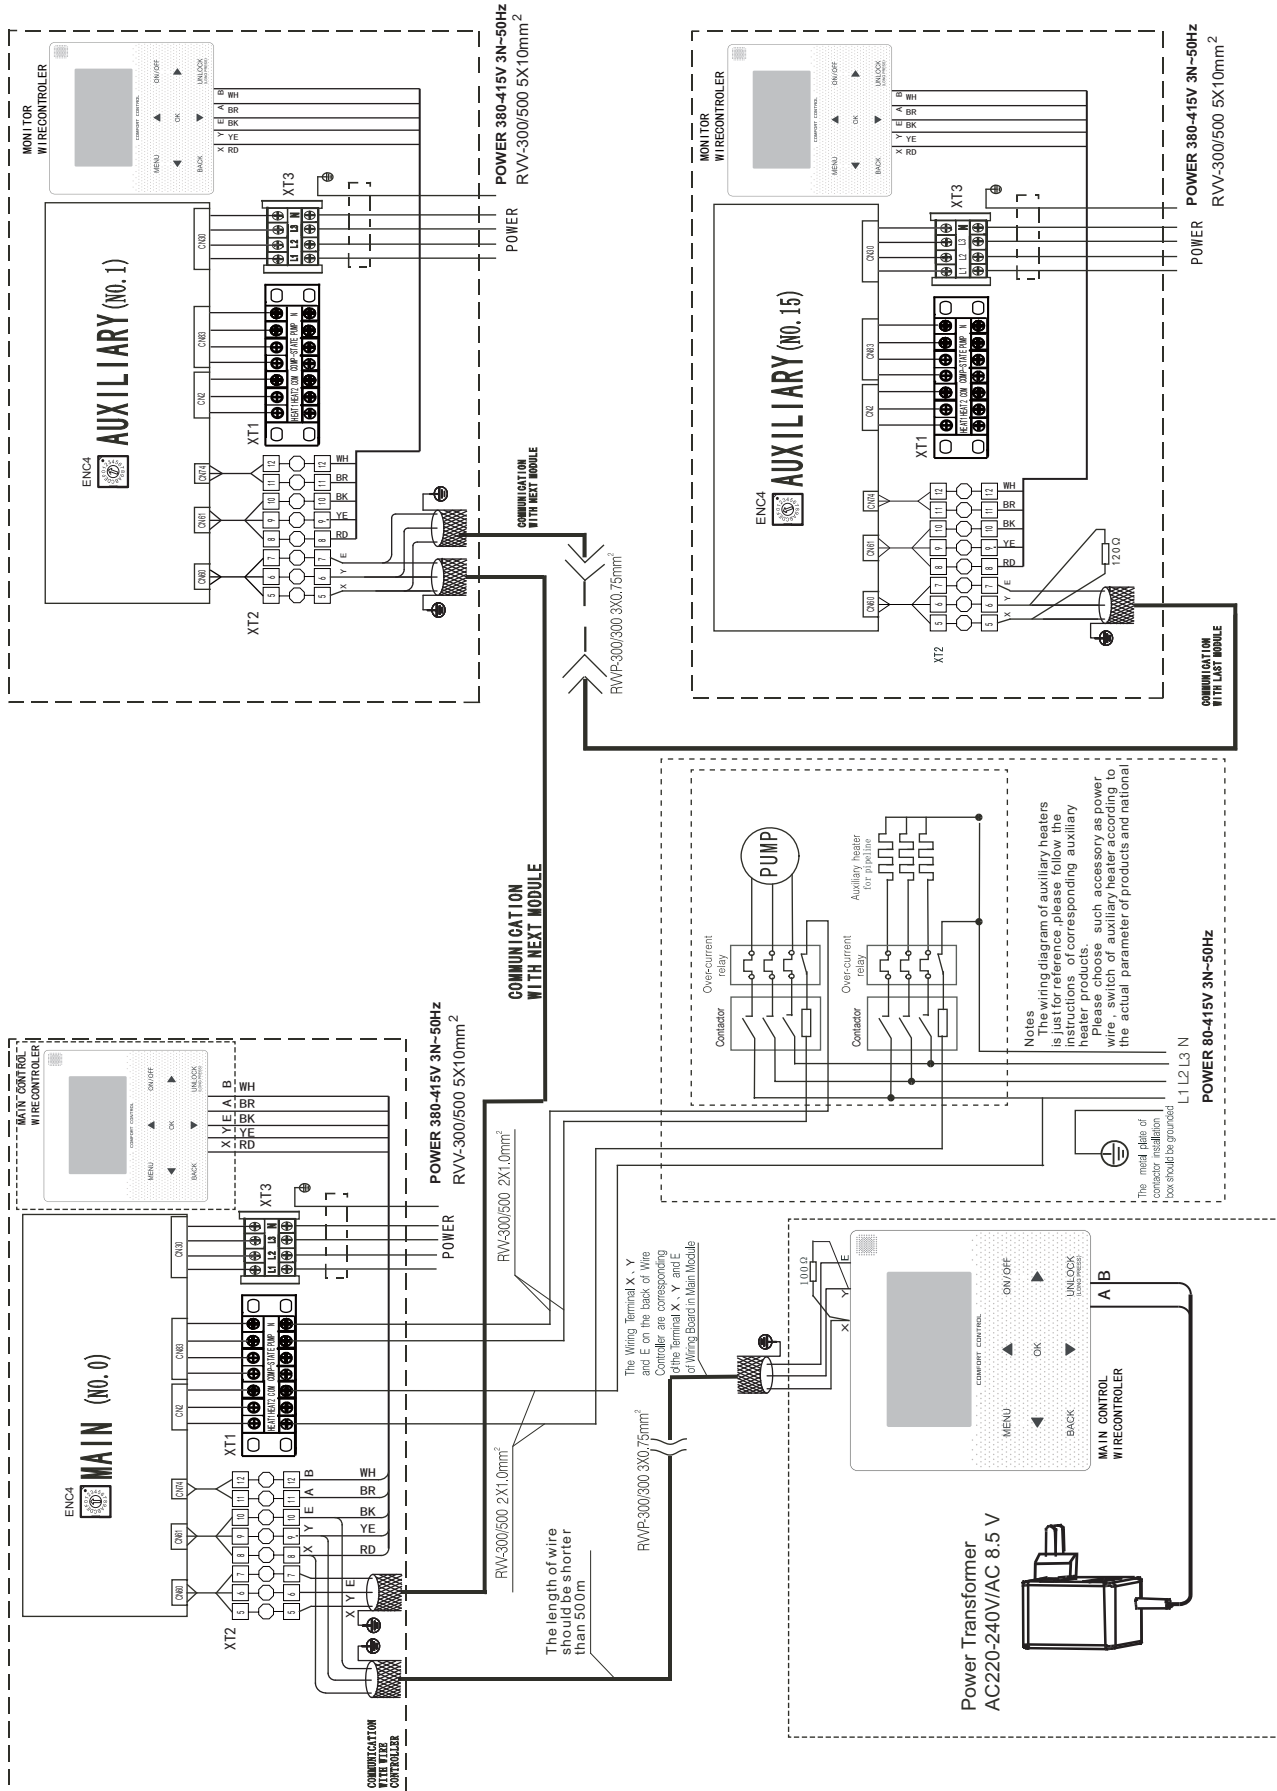

Fig.8-18 Networking communication schematic of main unit and auxiliary unit for models 30
c) Units must with a main unit controls (Please see Fig. 8-18 and 8-19 for the controls wiring diagram).